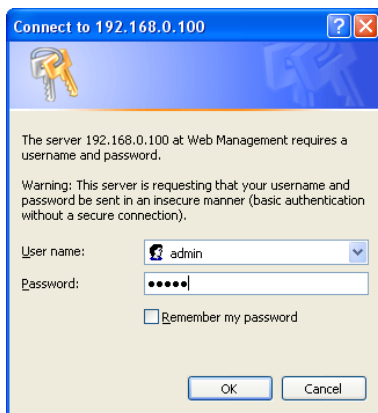

Figure 4-2: Login Screen
2. When the following dialog box appears, please enter the default user name **"admin"** and password **"admin"** (or the password you have changed before). The login screen in Figure 4-2 appears.